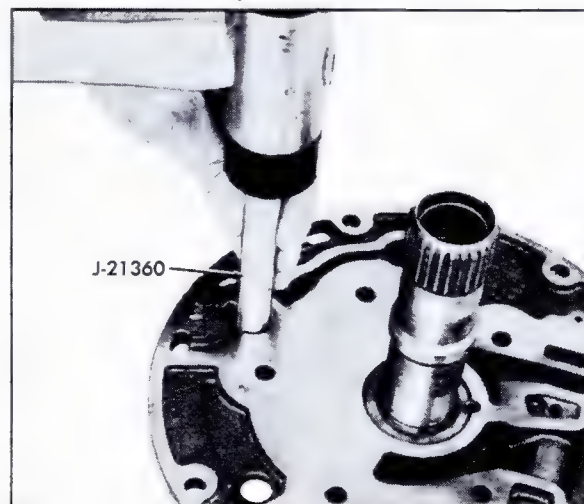

Fig. 7-74 Installing By-Pass Valve Seat
9. If previously removed, install cooler bypass valve spring (large end first), valve, and valve seat. Use Pump Check Valve Seat Installer, J-21360, Fig. 7-74, to install valve seat.